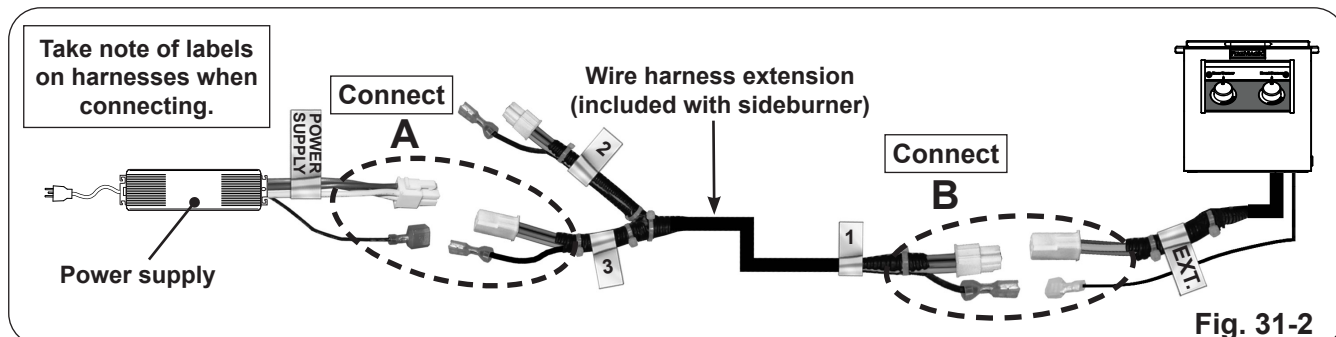

Fig. 31-2
1. Locate the "Y" end of the wire harness extension that is included with the sideburner and connect the compatible end to the power supply connectors (see Fig. 31-2, A).
2. Connect the opposite end of the wire harness extension to the sideburner connectors (see Fig. 31-2, B).